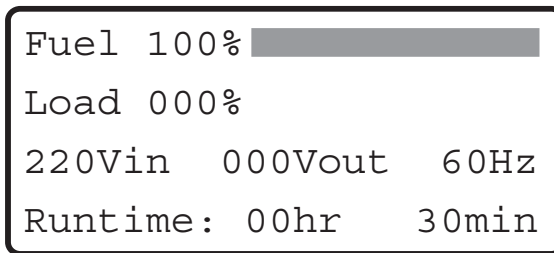

Figure 4: PowerView RM Monitoring Screen
- Figure 4: PowerView RM Monitoring Screen 4
After the PowerView RM interface has established communication with the Symmetra RM, the Monitoring screen appears on the LCD. Figure 4 shows the factory default Monitoring screen. (You can configure the Monitoring screen to display other information by going to the Display submenu and selecting Config.)